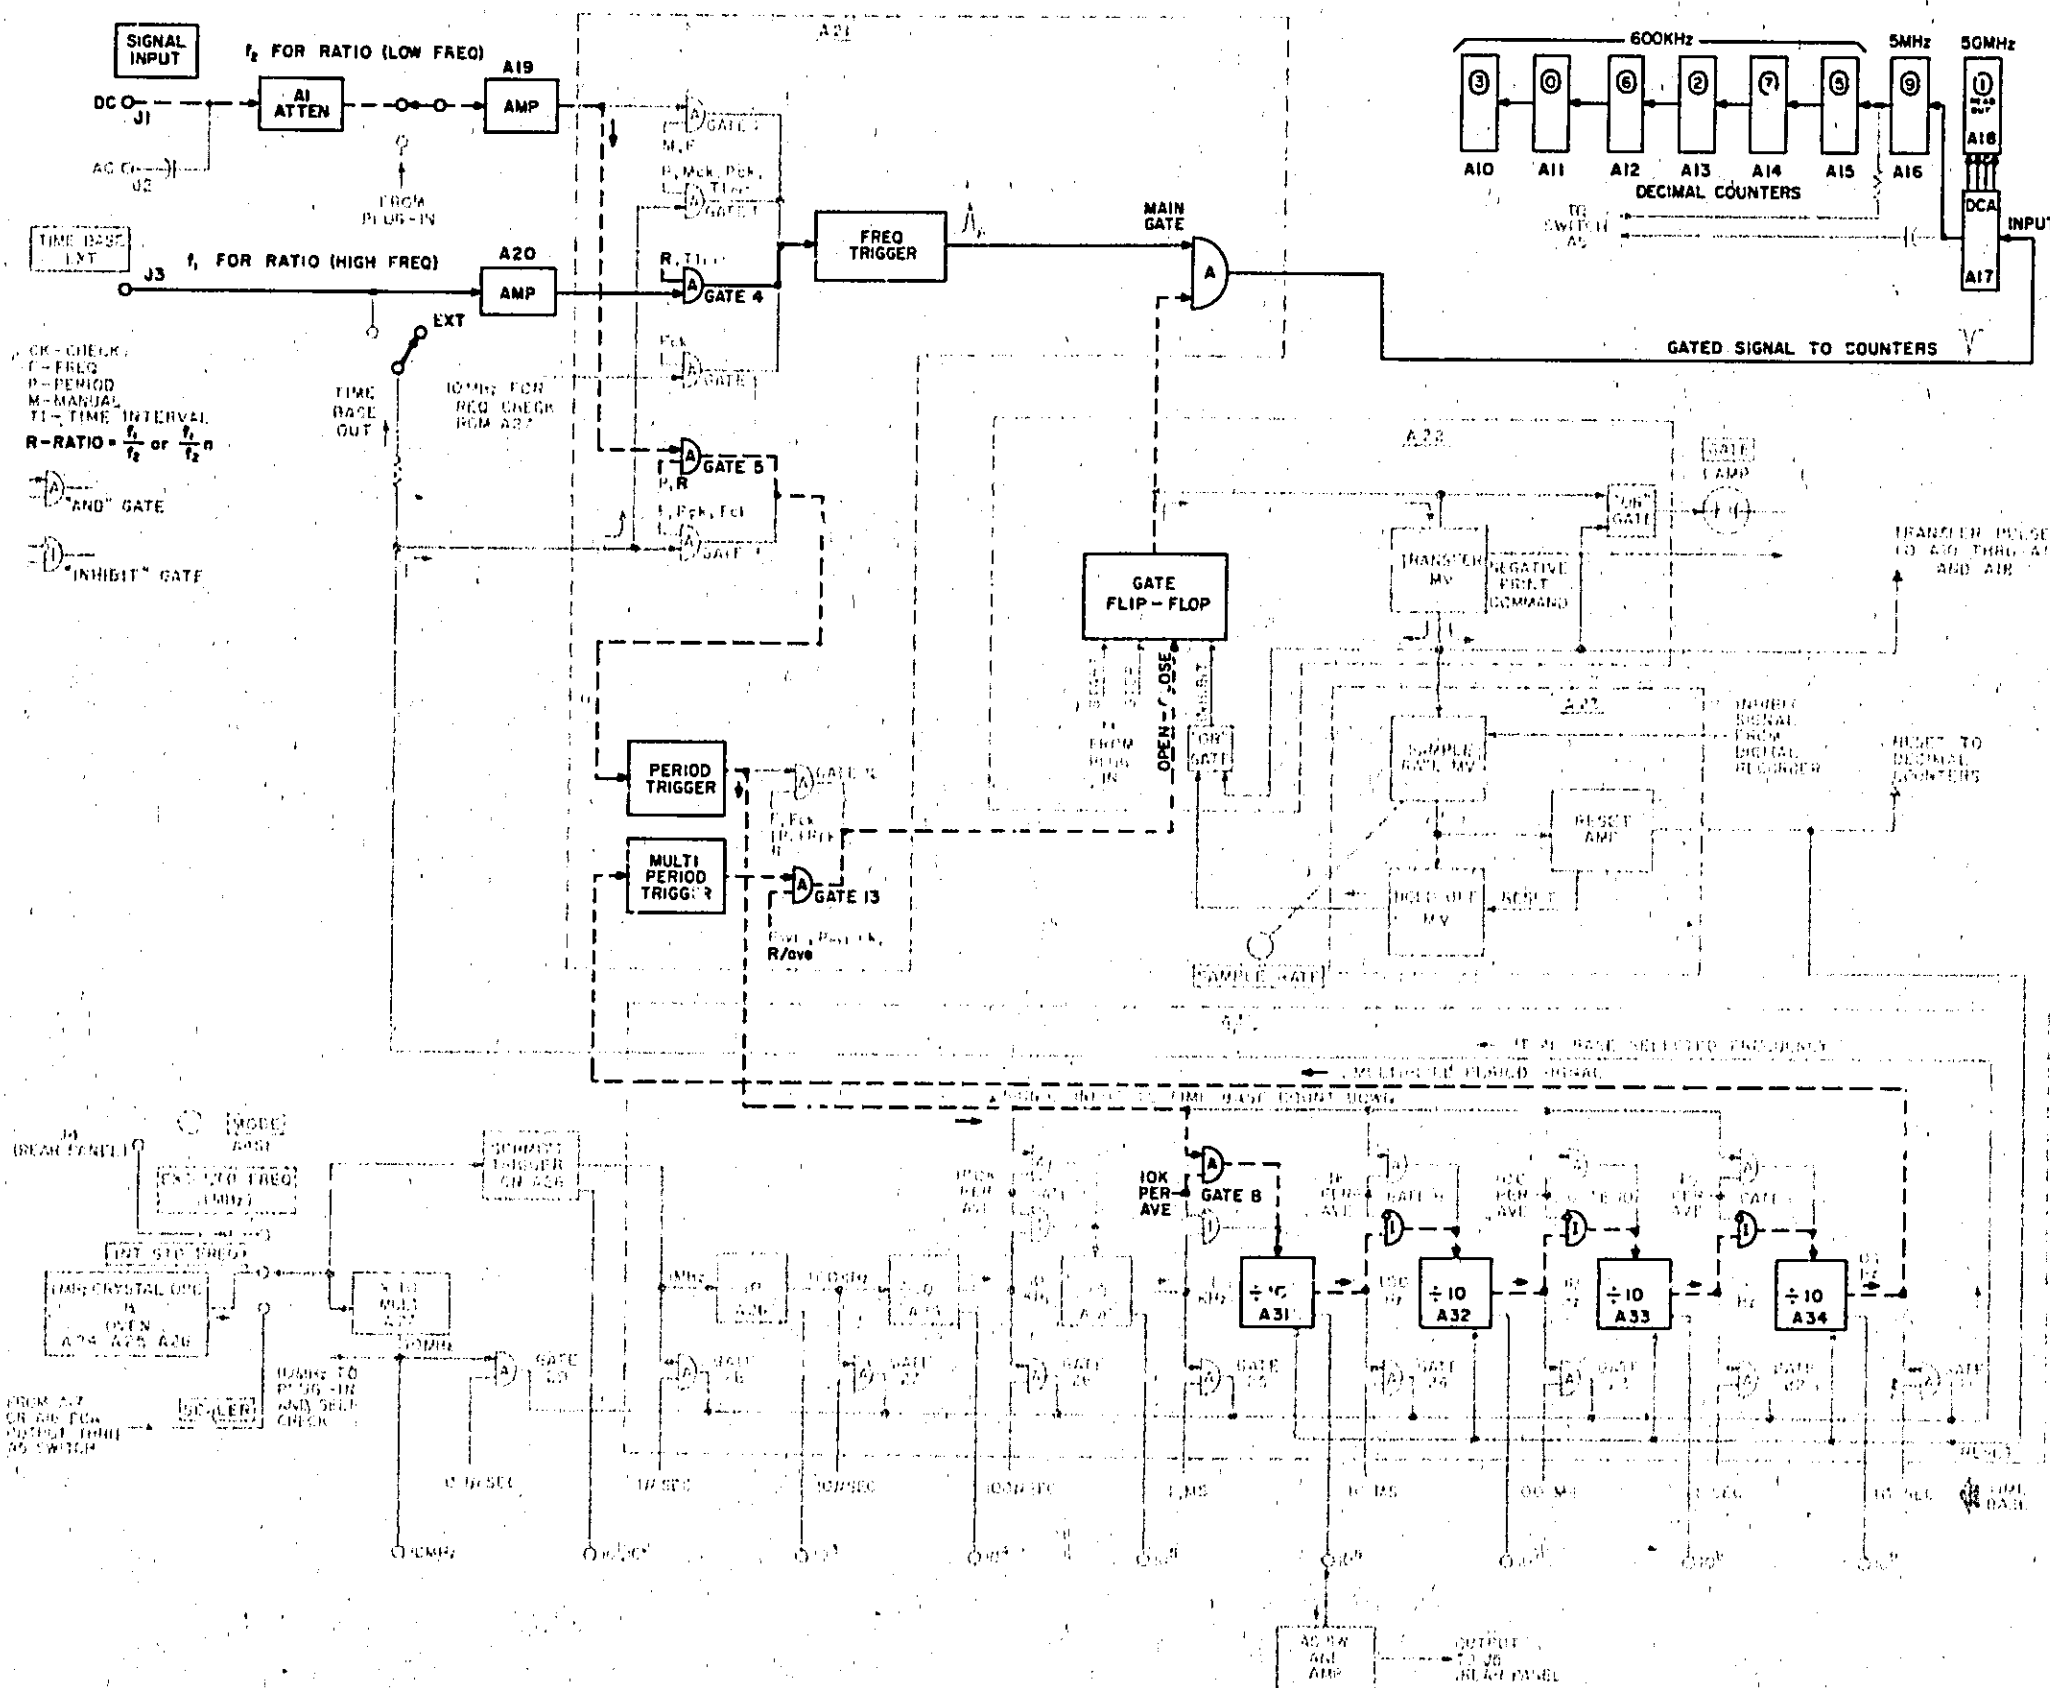

Figure 6-10. Ratio and Multiple Ratio Measurements
A ratio measurement is, in effect, a period measurement with the lower of the two frequencies used as the gating signal and the higher frequency signal used as the counted signal. In other words, the higher frequency signal takes the place of the time base. The number of cycles of the higher frequency signal f_1 which occur during a period of the lower frequency f_2 is counted in the DCA's. A multiple ratio measurement simply extends the number of periods of the lower frequency to 10, 100, etc. The decimal point is automatically positioned but no units are displayed since ratio is unitless. The block diagram of Figure 6-10 applies. Note that the standard selector is in the external (E) position and f_1 takes the place of the internal oscillator.